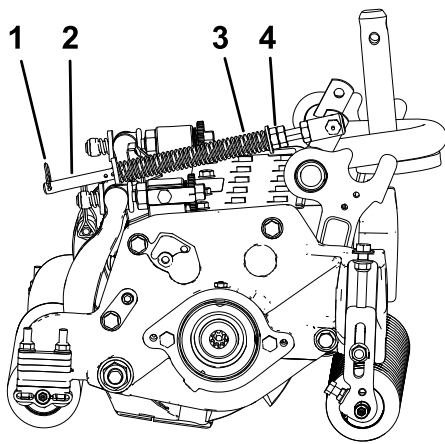

Figure 14
1. Make sure that the hairpin cotter is installed in the rear hole in the spring rod (Figure 14).
2. Tighten the hex nuts on the front end of the spring rod until the compressed length of the spring is 15.9 cm (6.25 inches) (Figure 14).